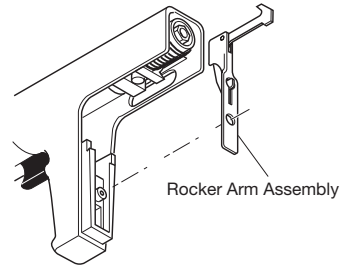

Figure 6 - Removing Rocker Arm Assembly from Housing
1. Rocker arm assembly is located in housing. Pull rocker arm assembly out of housing (see Figure 6).